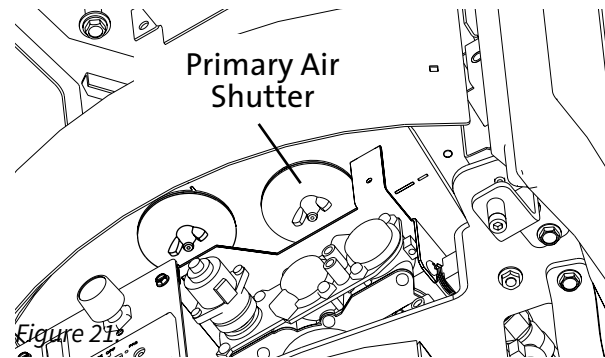

Figure 21. Air Shutter location.
3. Loosen the primary air shutter wingnut and push the stem all the way back. Fig. 21.